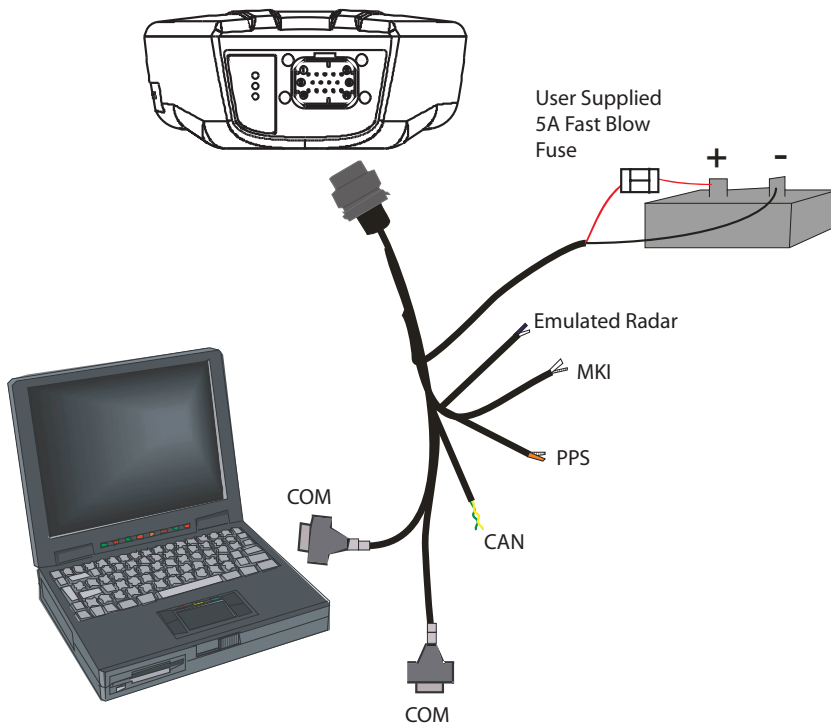

Figure 3: Simplified SMART-AG Setup
- SMART-AG cable (01018256) (included with the receiver Development Kit), NovAtel part number 01018257, see *Figure 3, Simplified SMART-AG Setup on Page 21* for COM and power connections